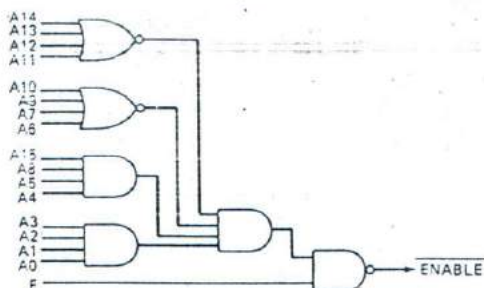

Fig. 12-13 An address decoder for S813F.
Block decoding is not always adequate. It may be necessary to decode a single address to allow the microprocessor to access a data port, a relay, or an analog-to-digital converter. Examples of the way a single address may be decoded are given in Figs. 12-13 and 12-14. The address in Fig. 12-13 is S813F. Decoder design begins with the conversion from hex to binary. The table shows the state of the various address pins for S813F. Two four-input NOR gates are used for address lines that are low. The NOR outputs
The address S813F is fully decoded by the circuit shown in Fig. 12-13. Of all 65,536 addresses that can occur, this is the only one that can produce an enable
34. Refer to Fig. 12-13. Suppose address lines A0 and A14 are interchanged. What address will be decoded? Is this the only address that will decode?